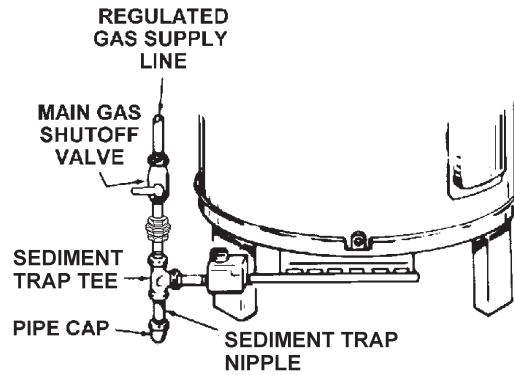

FIGURE 20.
To trap any dirt or foreign material in the gas supply line, a sediment trap must be incorporated in the piping, see Figure 20. The sediment trap must be readily accessible and not subject to freezing conditions. Install in accordance with recommendations of serving gas suppliers. Refer to the current editions of the National Fuel Gas Code or B149.1 Natural Gas and Propane installation code.
- For test pressures exceeding 1/2 psi (3.45 kPa) disconnect the water heater and its Main Gas Shutoff Valve from the gas supply piping system during testing, see Figure 20. The gas supply line must be capped when disconnected from the water heater.
1. Close the Main Gas Shutoff Valve, see Figure 20.
3. Close the Main Gas Shut Off Valve, see Figure 20.
4. Wait five (5) minutes for any residual gas to clear.